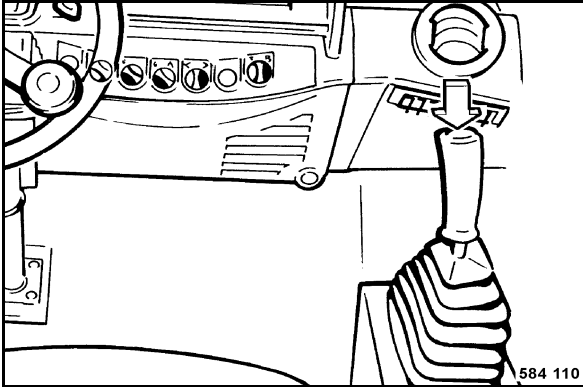

Fig. 67
- Press the vibration push button (Fig. 67) in the travel lever while driving.
- Press the vibration push button (Fig. 67) again.